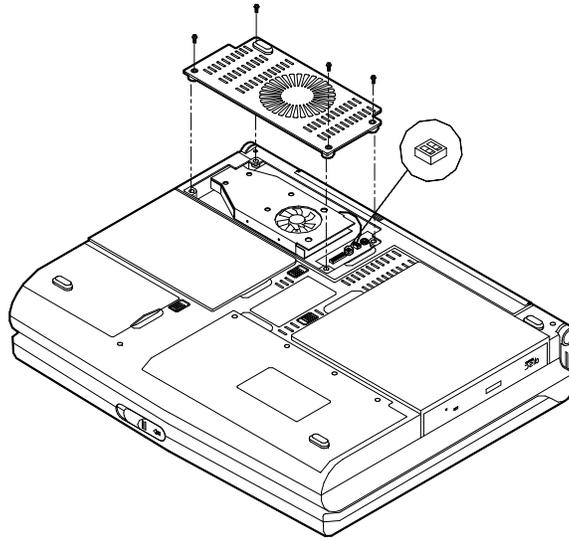

Figure 2-6
3. Remove the CPU cover. Use the 2-pole DIP Switch to set the configuration (Figure 2-6).